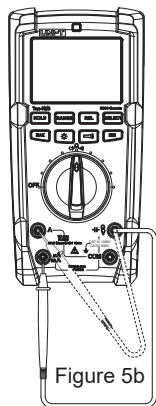

Figure 5b
- The resistance measurement function can be applied to make self-inspection of built-in fuse (See Figure 5b).